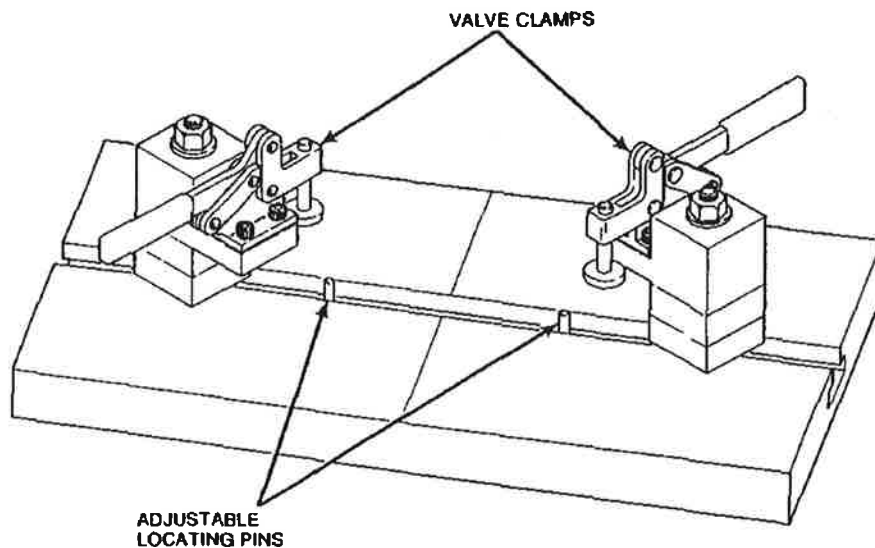

Figure 4-29. Suggested Valve Holder
1. Place the valve in a valve holder. (Figure 4-29 shows a suggested valve holder.)
9. Place the valve in a holding fixture. A typical fixture is shown in Figure 4-29.